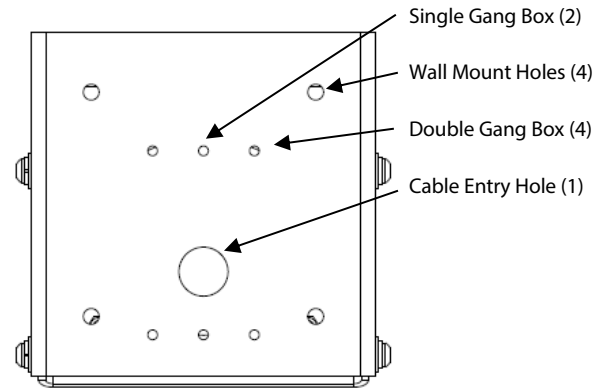

Figure 2 - Mounting Holes
3. Hold unit up to installation side and use as a template to mark mounting hole locations and cable entry hole (see Figure 2).